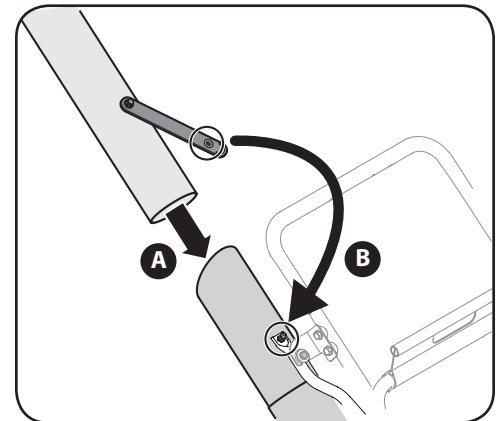

Figure 4-6
- Secure strap on hose extension to pin on hose assembly. See Figure 4-6.